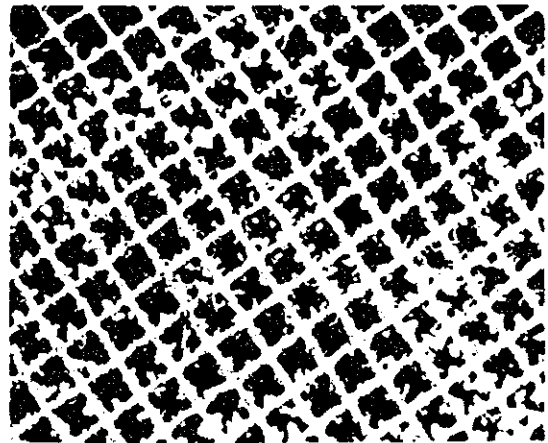

Figure 24
•**Peeling (Figure 24)** Temperatures above 1,800 degrees F. and prolonged flame impingement can cause the catalyst coating to peel off the ceramic substrate. If the peeling is severe, the catalyst should be replaced.